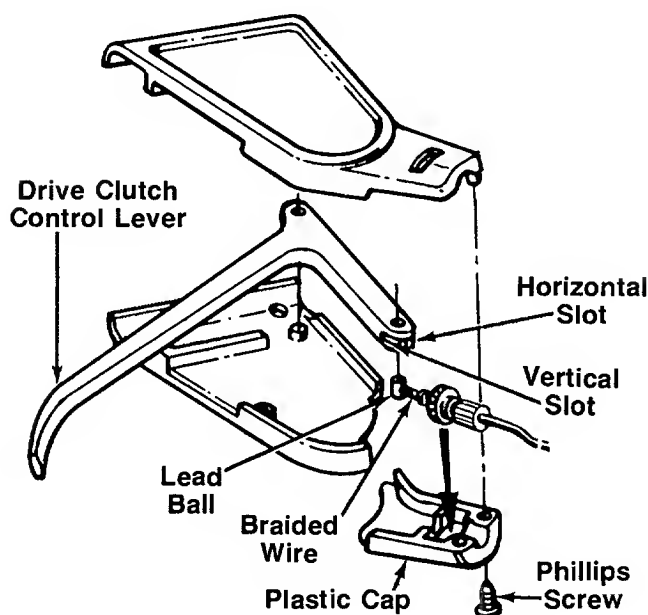

FIGURE 8.
2. Slide the braided wire around in the horizontal slot. See figure 8.
3. Make certain the adjustment wheel is threaded onto the cable as far as possible as shown in figure 8. Place the adjustment wheel into the clutch control housing.
4. Secure the plastic cap to the clutch control housing using the two Phillips head screws. See figure 8.